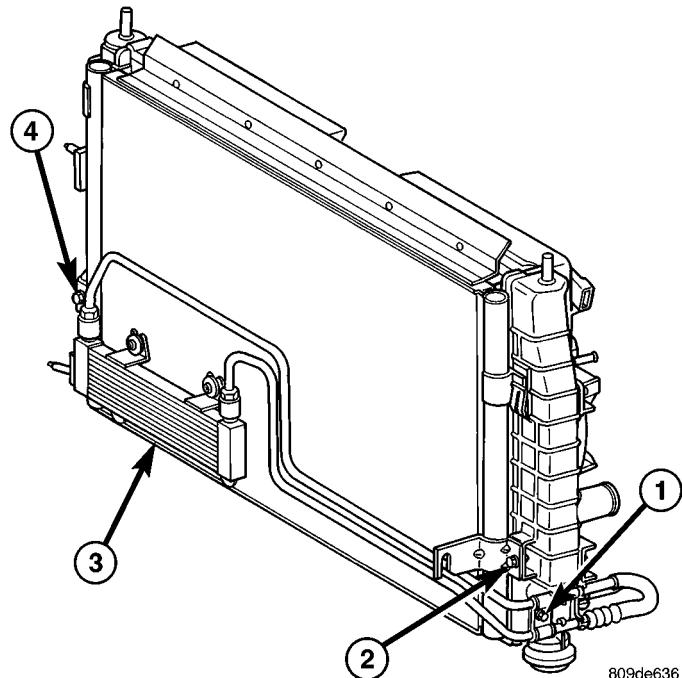

Fig. 4 A/C CONDENSER TO RADIATOR
(10) Position the external cooler lines to the side of radiator. Install support bracket and screw (Fig. 4).
(11) Install the retaining strap locks and tighten to secure the cooler to the condenser. Trim off the excess strap material.
(12) Connect the cooler hoses to cooler lines and tighten hose clamps to 3 N·m (28 in. lbs.).
(13) Install radiator side air shields.
(14) Install the front fascia (Refer to 13 - FRAMES & BUMPERS/BUMPERS/FRONT FASCIA - INSTALLATION).
(15) Install the front wheels
(16) Install the radiator upper support (Refer to 23 - BODY/EXTERIOR/GRILLE OPENING REINFORCEMENT - INSTALLATION).
(17) Connect negative cable cable to remote jumper terminal.